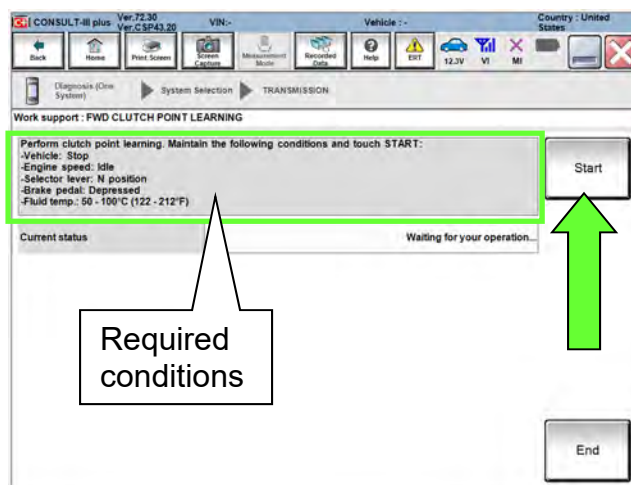

Figure 166
- Confirm that all of the required conditions indicated in Figure 166 are being met.
163. While maintaining all conditions shown in Figure 166 and the “Current status” indicates “EXECUTING”, shift the CVT into **D** and then wait until the Current status indicates “COMPLETED”.